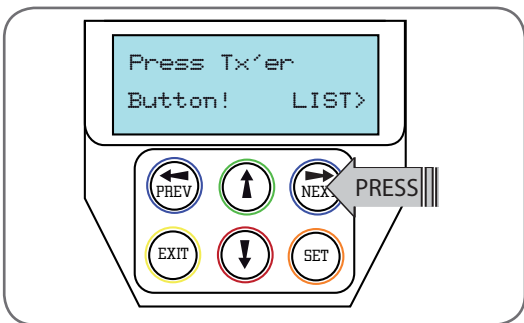

Fig G.1
- f. Press NEXT to view the transmitter parameters (**Fig. G.1**). This method is used for quick navigation if the transmitter is available.